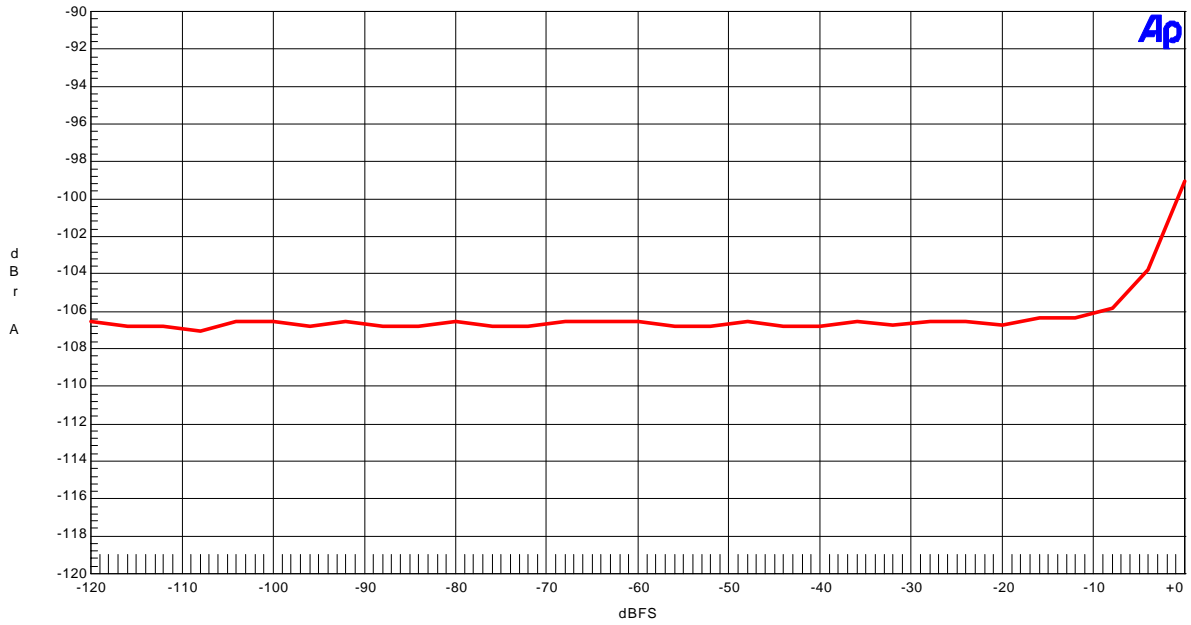

Figure 15. THD+N vs Input Level (fs=96kHz; fin=1kHz)
- Figure 15. THD+N vs Input Level (fin=1kHz)